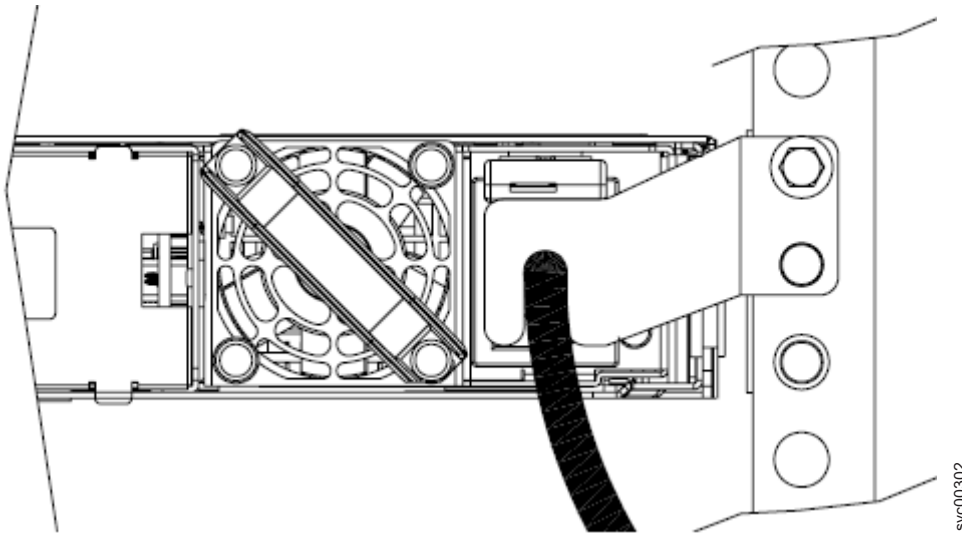

Figure 27. The SAN Volume Controller 2145-8G4 with cable-retention bracket type B attached
1. Remove the securing bolt from the node side rail (shown in Figure 27 on page 34) next to the power supply.